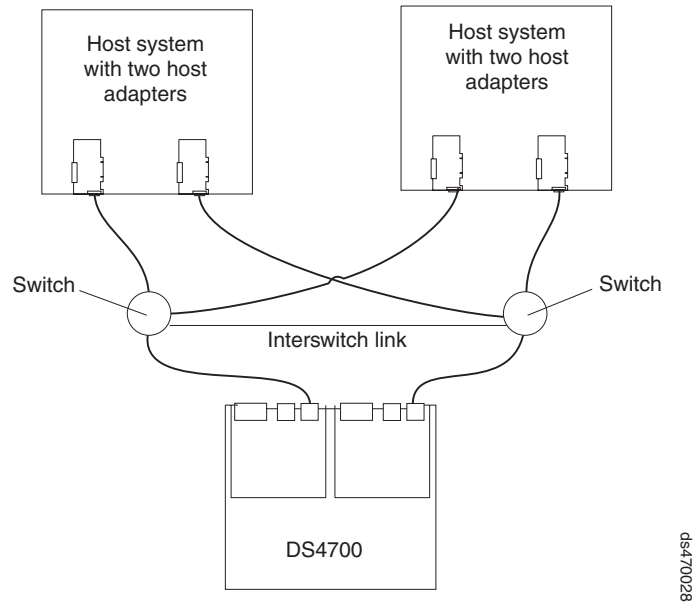

Figure 87. Example of a single SAN fabric configuration
- Single SAN fabric configuration, as shown in Figure 87 on page 107
In Figure 87 on page 107, the fibre channel switches are connected together via the inter-switch link (ISL) to form a single SAN fabric.